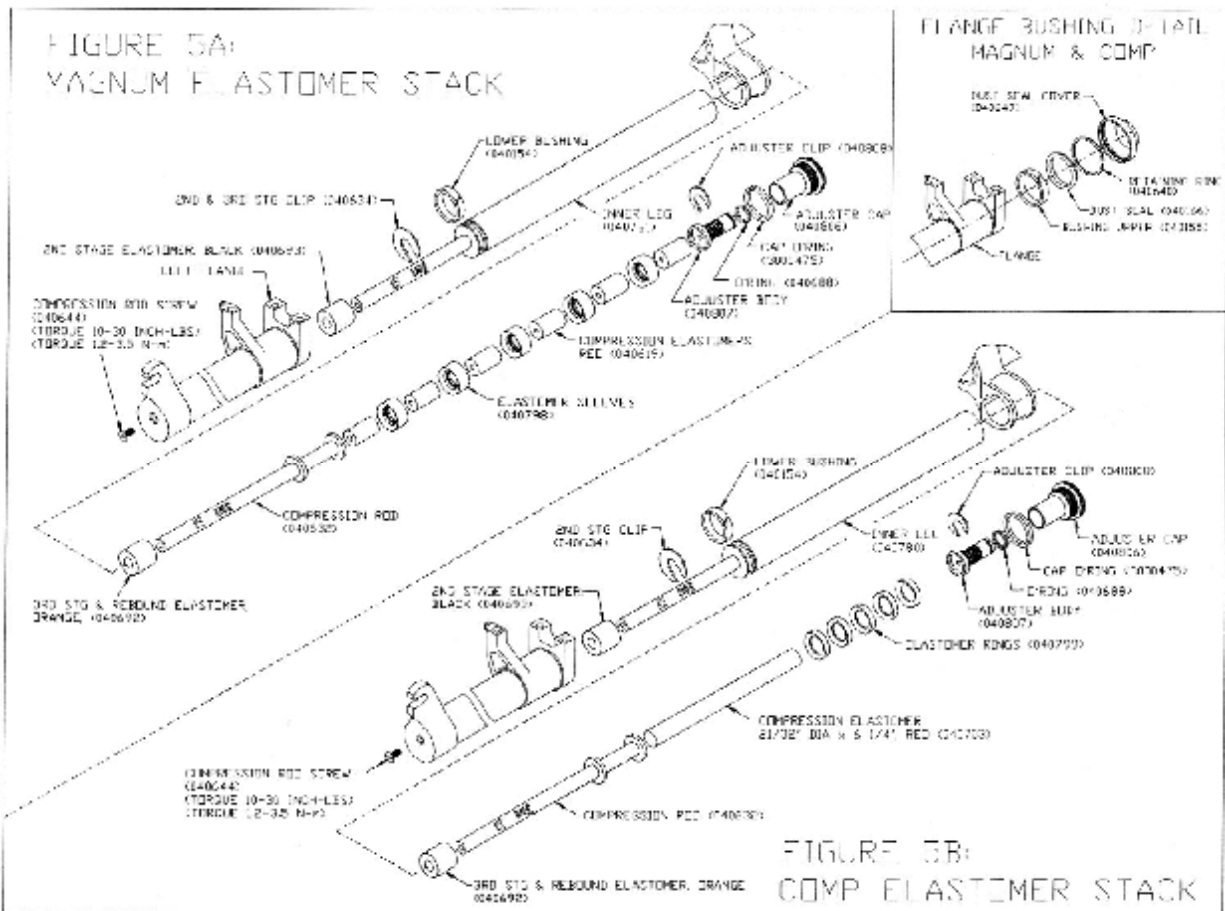

Figure 2
4. Install rebound (top out).(Figure 2)
8. Stick the 6 compression elastomers into the spacers then grease the elastomer stack assembly.(Figure 2)